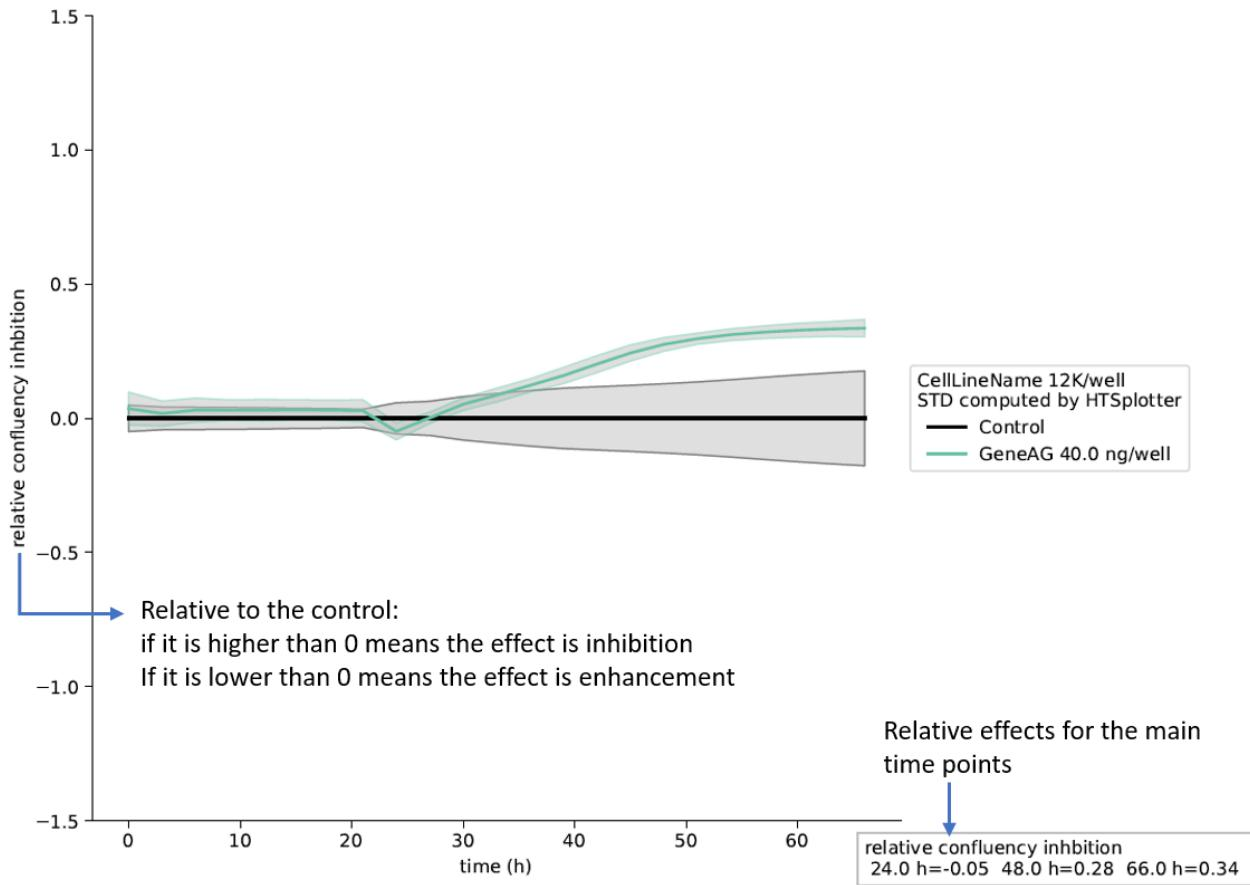
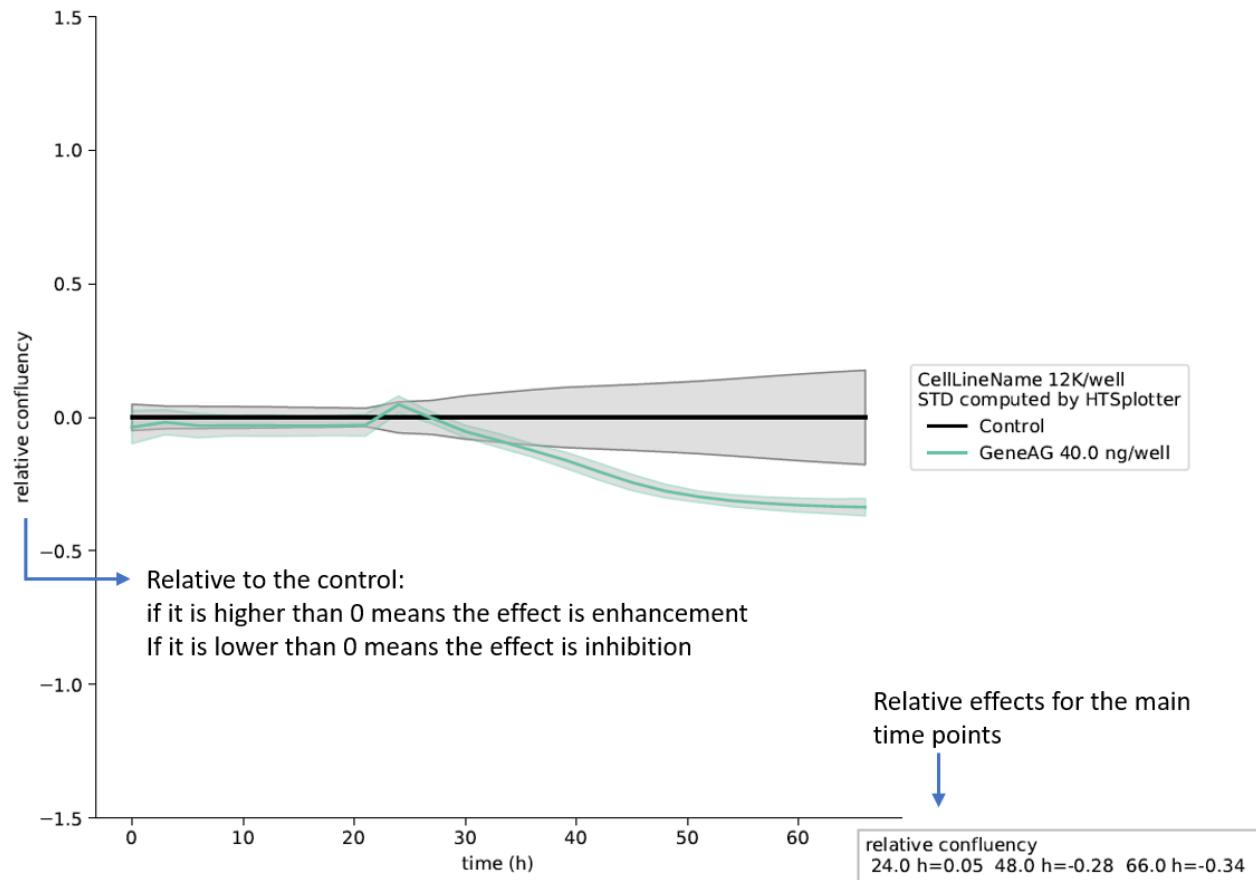

Figure 39: XY-plot with the inhibition effect of GeneAG. A summary with the relative inhibition effect is shown for the main time points.
Figure 40: XY-plot with the effect of GeneAG. A summary with the relative condition effect is shown for the main time points.
- XY-plot for each perturbagen, inhibition (Figure 39) or enhancement effect (Figure 40).